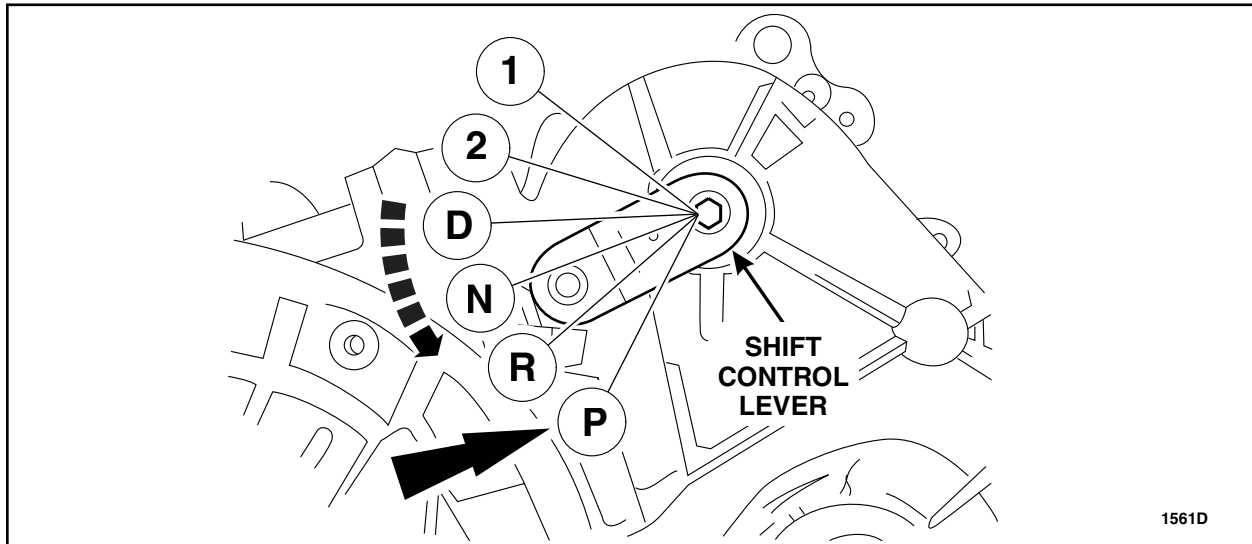

FIGURE 4
5. Rotate the shift control lever to the "Park" position. See Figure 4.